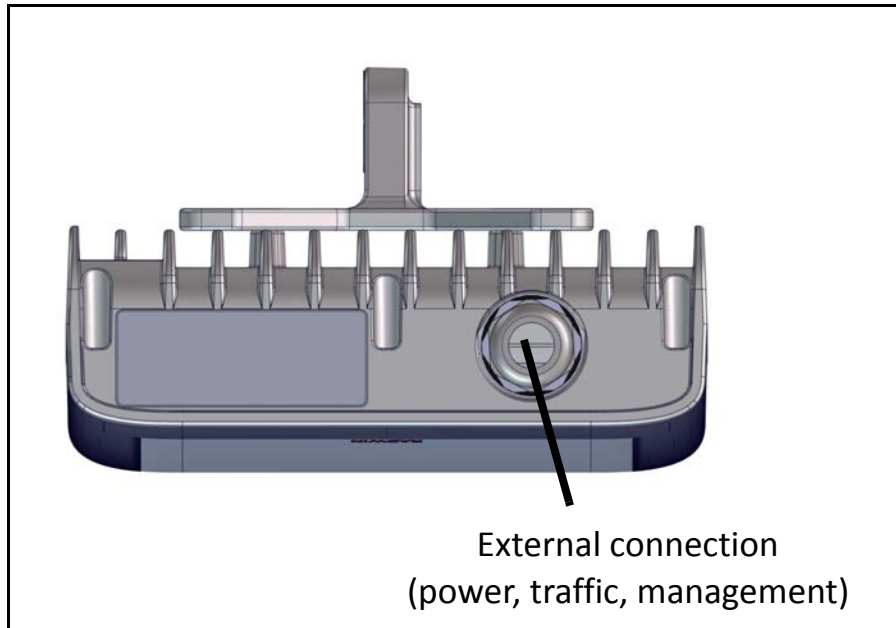

Figure 2-21: Node input connection
1. Connect a CAT-5e cable to the port of the radio as shown (Figure 2-21, Node input connection). This connection provides power, traffic, and management connection.